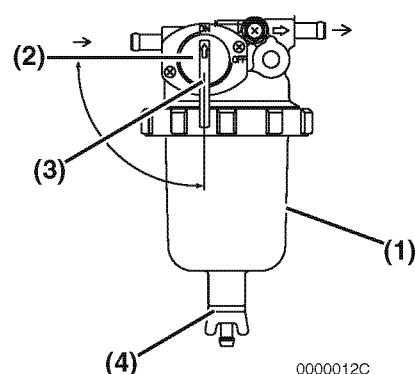

Figure 8
1. Position an approved container under the fuel filter / water separator (**Figure 8, (1)**) to collect the contaminants.
2. Close (**Figure 8, (2)**) the fuel cock (**Figure 8, (3)**).
3. Loosen the drain cock (**Figure 8, (4)**) at the bottom of the fuel filter / water separator. Drain any water collected inside.
5. Open the fuel cock (**Figure 8, (3)**).